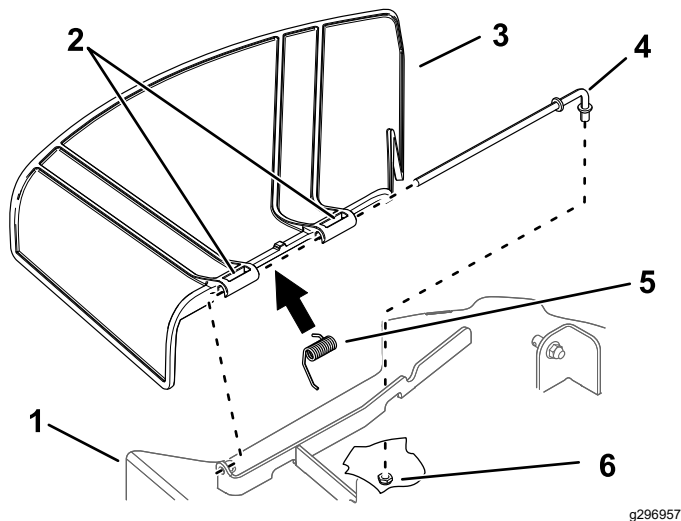

Figure 73
1. Remove the nut (3/8 inch) from the rod under the mower (Figure 73).
2. Slide the rod out of the deck bracket, spring, and grass deflector (Figure 73).
4. Install the new grass deflector (Figure 73).
7. Slide the rod through the second grass-deflector pivot (Figure 73).
9. Secure the rear end of the rod into the mower with a nut (3/8 inch) as shown in Figure 73.